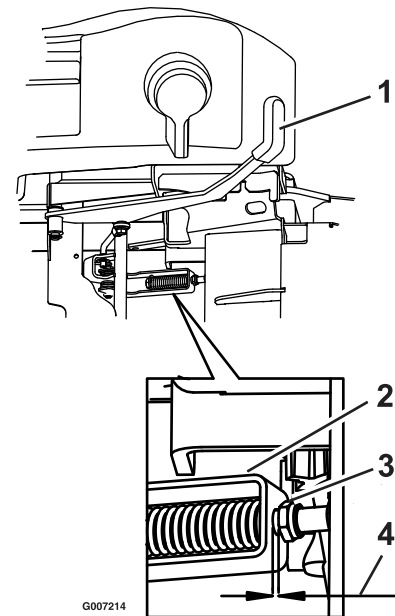

Figure 13
4. Locate the park brake spring assembly (see Figure 13). There should be a gap of 1/8 inch (3 mm) between the yoke and thin nyloc nut on the brake bolt. If necessary, rotate the thin nyloc nut to obtain the 1/8 inch gap.